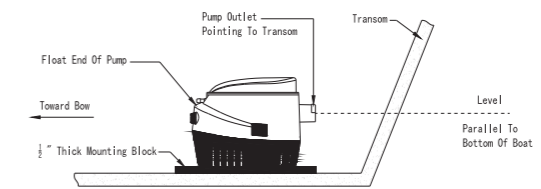

Figure 1
1. Make sure the hull thickness is at least 1/2" thick. If not, place a block of 1/2" marine plywood (slightly larger than the pump base) in the lowest part of the bilge. Be sure that the pump cover can be removed for cleaning in this position. Glue the plywood to the hull with a waterproof adhesive (epoxy, silicone adhesive, or fiberglass resin). See figure 1.
Be sure outlet nozzle is level. If pointed upward or downward, an airlock may form in the pump. (See Figure 1)
3. The float end of the pump must be level with or above the pump end (See Figure 1). This prevents the pump from running out of water while the float is still high enough to activate the pump.
4. Mark location of the three (3) mounting holes with a pencil or scribe.